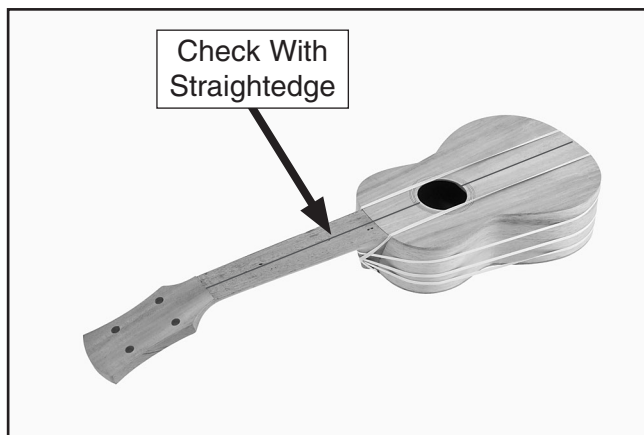

Figure 24. Location to check alignment of body and neck.
4. Using a long straightedge, verify the ukulele is flat along the neck and sound board, as shown in **Figure 24**.